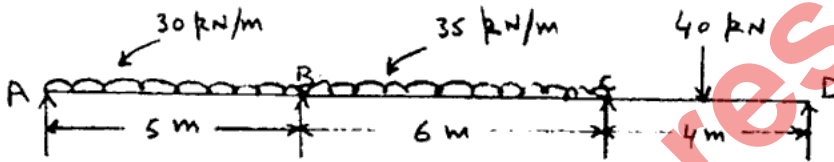

Fig 4
- (b) A continuous beam ABCD is loaded as shown in Fig. 4. Taking load factor as 1.75, determine the value of M_p for which it may be designed as uniform section.